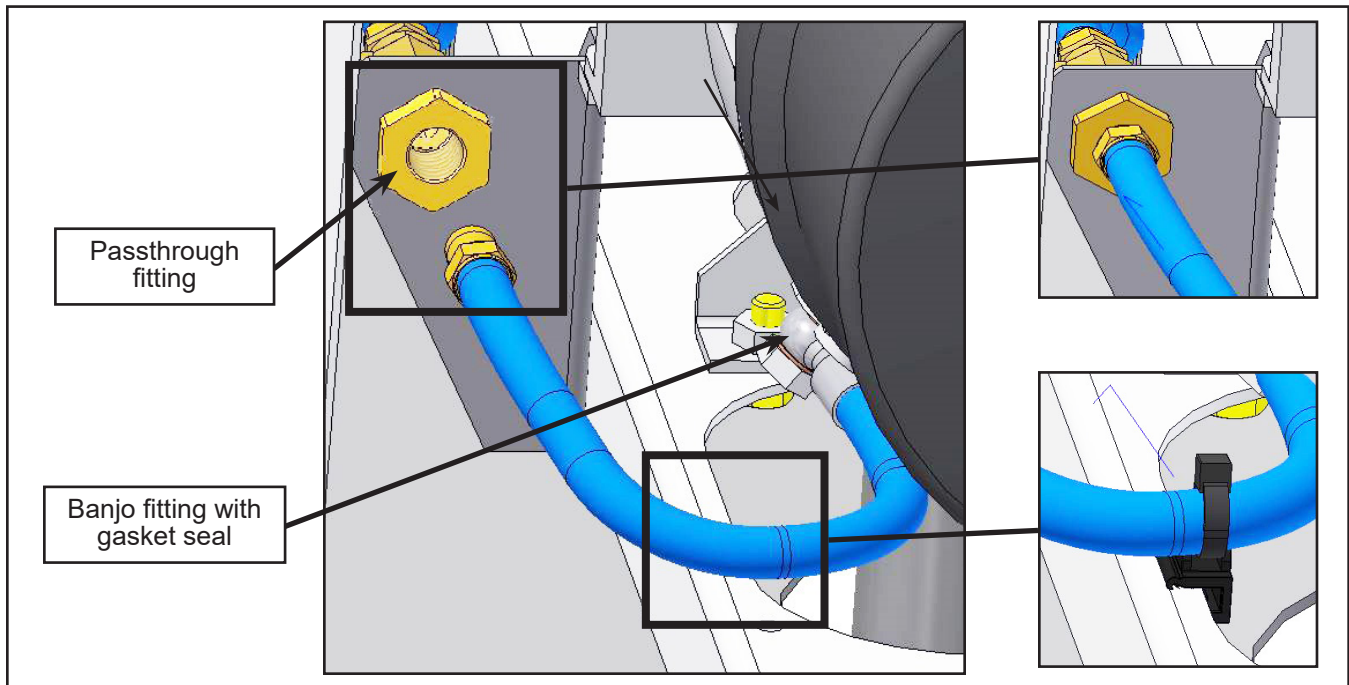

Figure 10 - Reconnect Fuel Hose and Secure with Edge Clip and Cable Tie
- 1.17. Reconnect the hose to the passthrough fitting with thread sealant. If hose orientation has to be modified and the Banjo fitting untightened, replace the Banjo fitting gasket ring with a new one: N34002 (Figure 10).
- 1.18. Secure fuel hose with edge clip and cable tie N81377 (Figure 10).